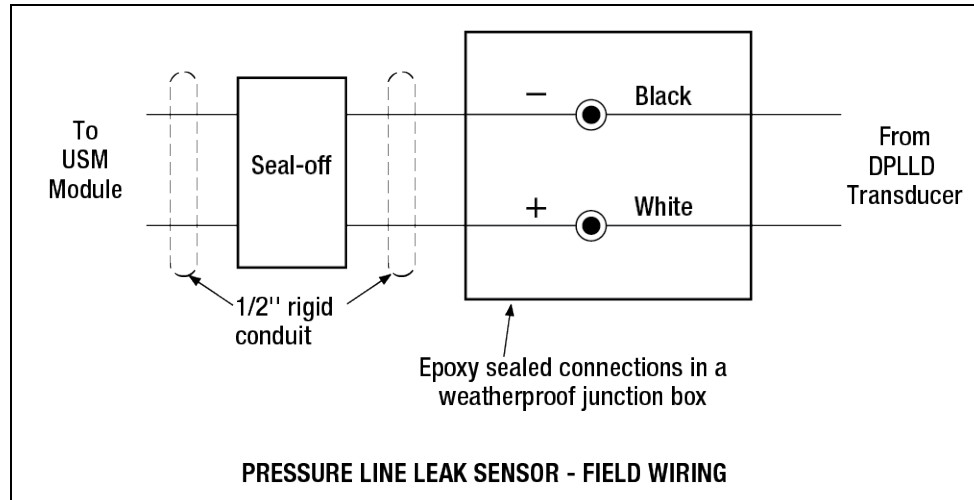

Figure 17. Field Connections Of DPLLD Transducer
2. Using wire nuts, connect the white and black wires from the DPLLD transducer to field wires in the weatherproof sump junction box (ref. Figure 17). **Be sure to maintain correct polarity between the color-coded or marked field wires and DPLLD transducer wires when making all connections. Cut off the transducer shielded ground wire (if present) flush with the cable jacket. Do the same for the cable shield.**